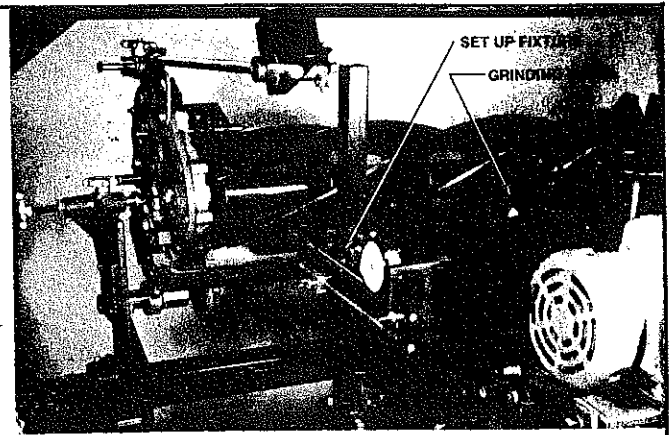

FIG. 63
- A. Position the grinding wheel assembly in the middle of 36" or wider reels and to one side of the grinder on smaller reels, so that you can touch both sides of the reel with set up fixture without moving the grinding wheel assembly from side to side. (See FIG. 63)